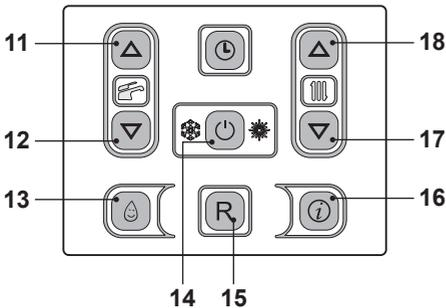
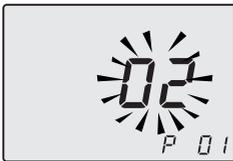

Fig. 7.35
Fig. 7.36
- Enter the "programming mode" by pressing keys 14 - 17 - 18 (Fig. 7.35) for 10 seconds at the same time until the letters **P01** on the LCD display, indicating that "parameter 01" (Fig. 7.36) has been activated.
- By pressing key 14 (Fig. 7.35) confirmation of the inserted value is obtained.
- Press keys 17 or 18 (Fig. 7.35) to exit without changing the value.